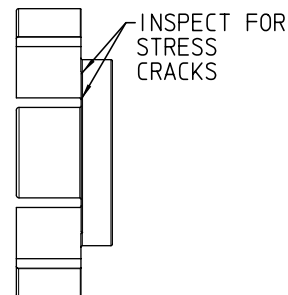

FIGURE 8
3. Carefully inspect rotors visually for worn splines, bearing shoulder wear, and for stress cracks. Replace worn or cracked rotors. See Figure 8.